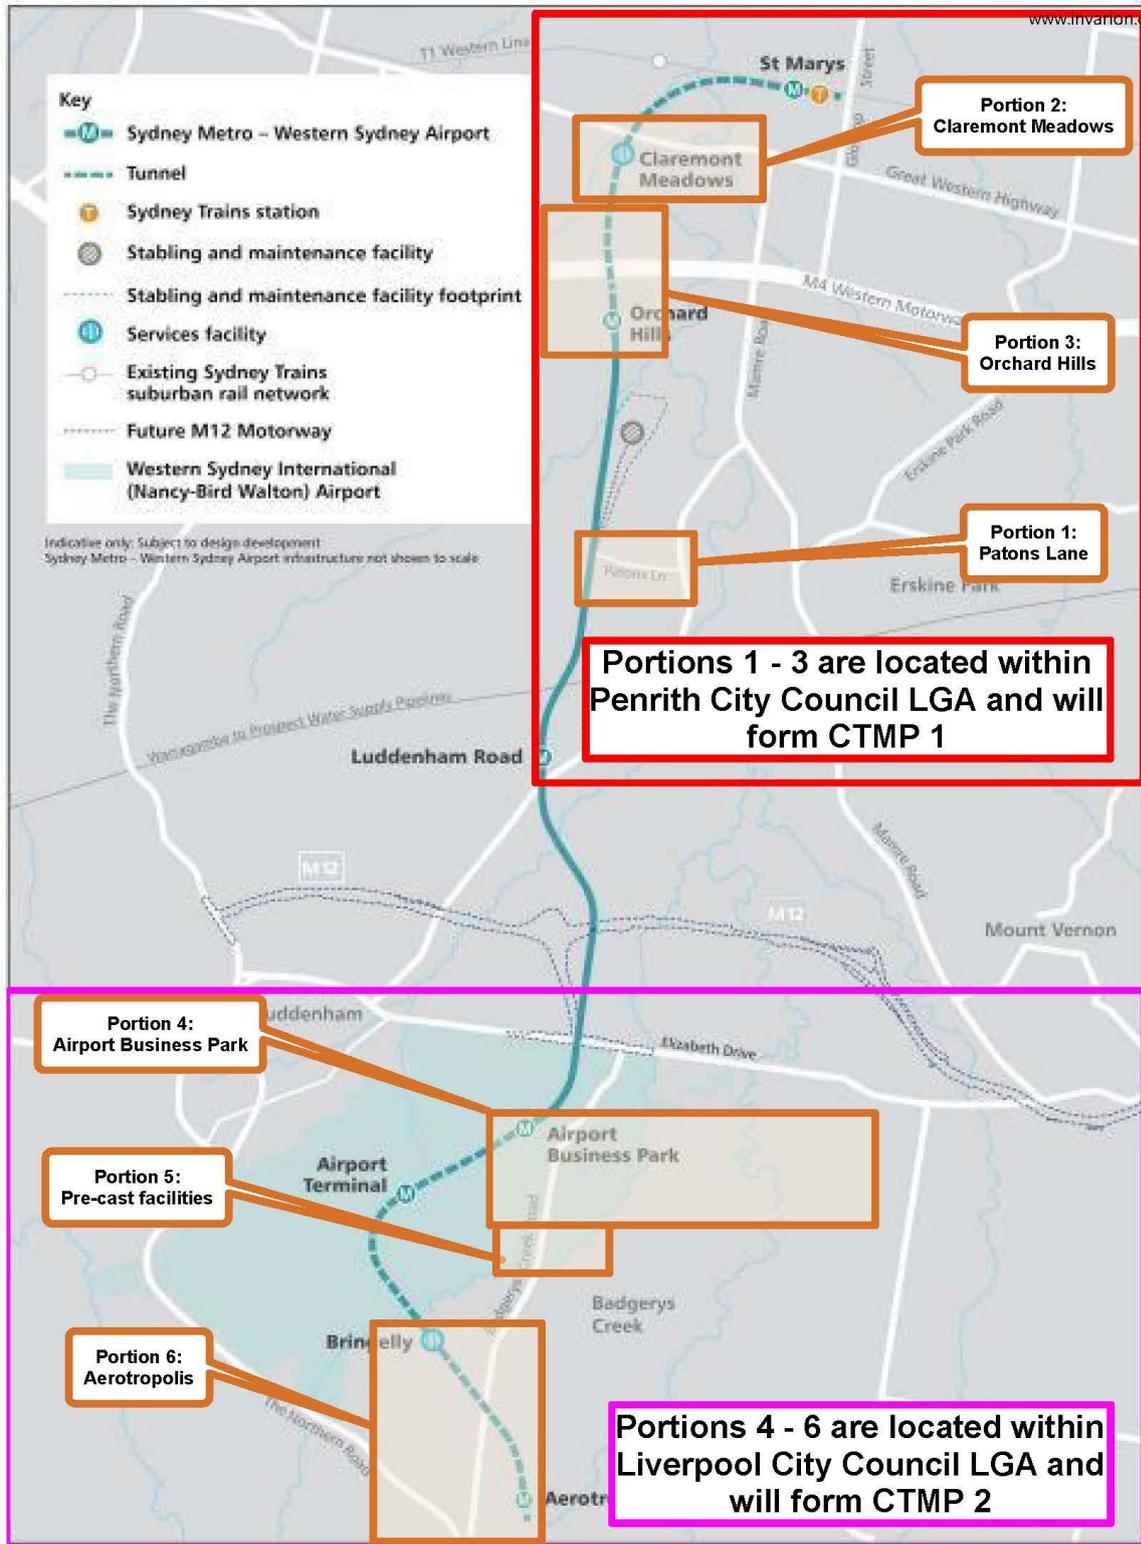

Figure 5.1 Operational CTMP breakdown
The Portions (work locations) has been separated into two (2) working sections for the purposes of operational CTMP development as shown in Figure 5.1.